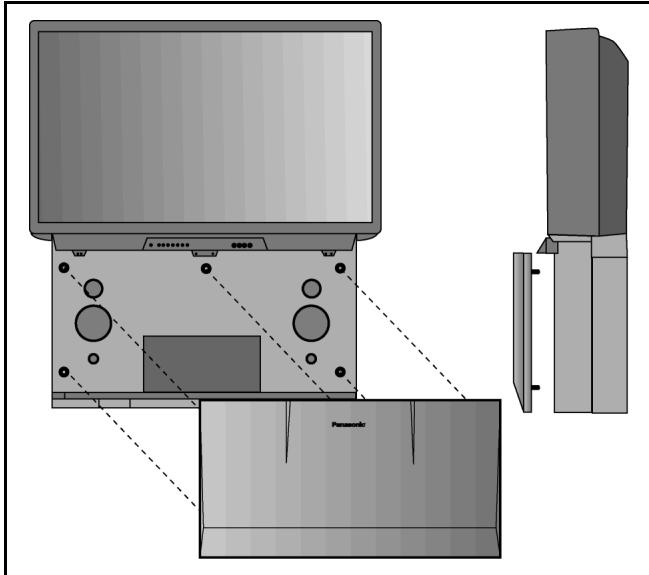

Figure 7. Speaker Grille Removal.
## Speaker Grille Removal (Fig. 7)
1. Remove the Speaker Grille. See Fig. 7.
2. Each speaker is secured to the cabinet with (4) screws.